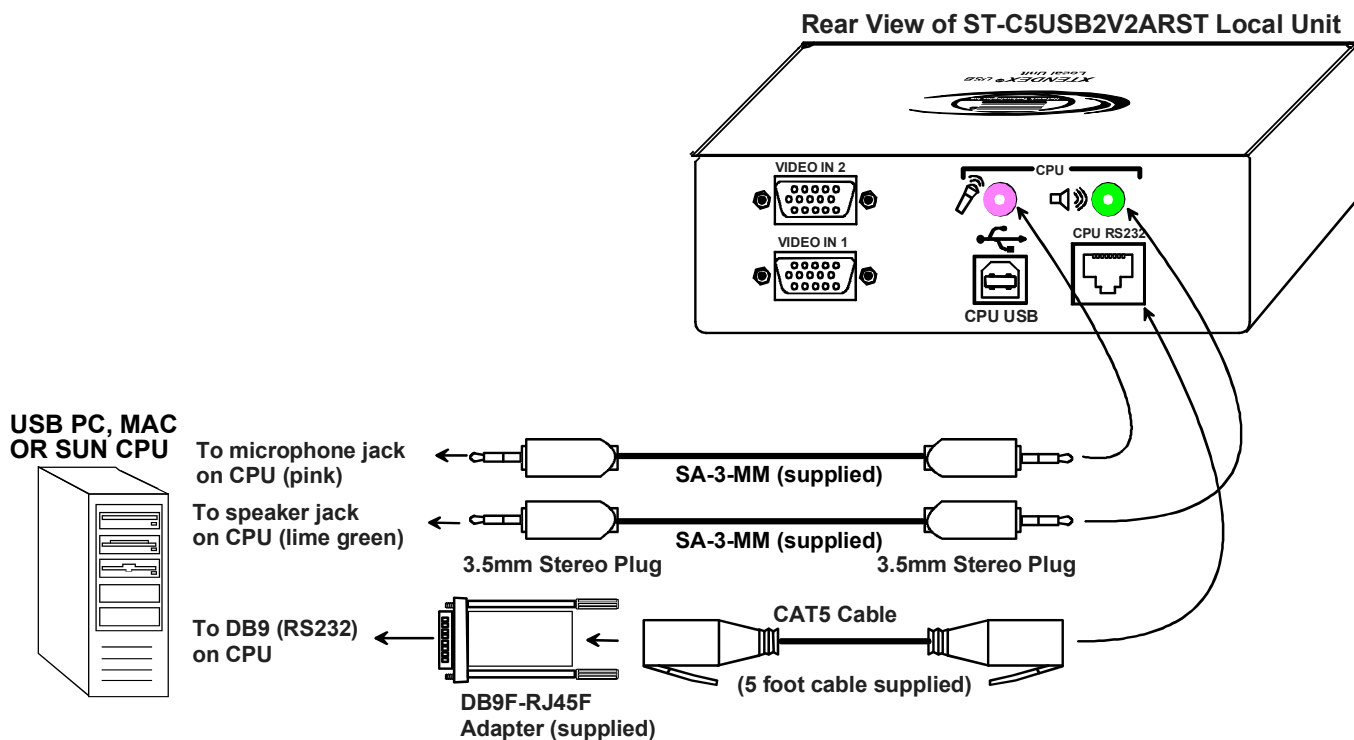

Figure 2- Connect audio and RS232 cables to the Local Unit
1. Connect an SA-3-MM stereo audio cable (supplied) between the pink "CPU" connector on the Local Unit and the "line in" or microphone jack (typically pink) on the CPU (see Figure 2).
2. Connect a second SA-3-MM stereo audio cable (supplied) between the green "CPU" connector on the Local Unit and "line out" or speaker jack (typically green) on the CPU (see Figure 2).